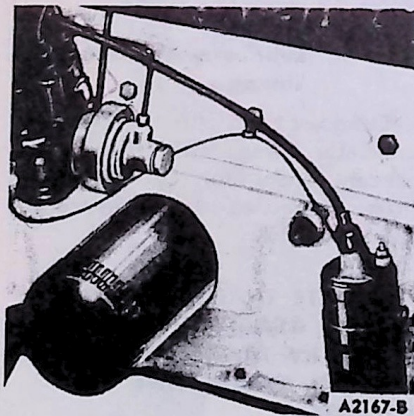

FIG. 148 Oil Filter Installed—Typical
2. Coat the gasket on the filter with oil. Place the filter in position on the cylinder block (Fig. 148). Hand tighten the filter until the gasket contacts the adapter face; then advance it 1/2 turn.